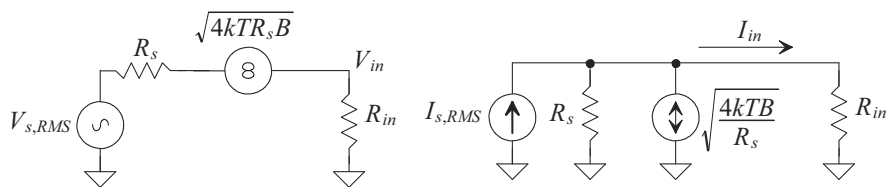

Figure 8.49 Calculating input SNR in Problem 8.7.
- 8.7** Show, Fig. 8.49, that the calculation of SNR_{in} results in the same value independent of treating the input as a voltage or a current.